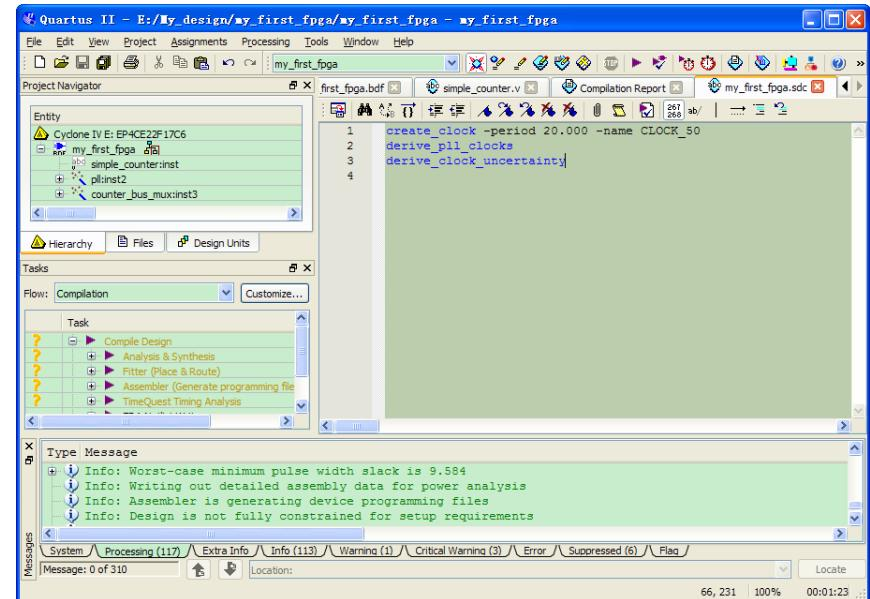

Figure 6-43 Default SDC
4. Save this file as my_fpga.sdc (see Figure 6-43)